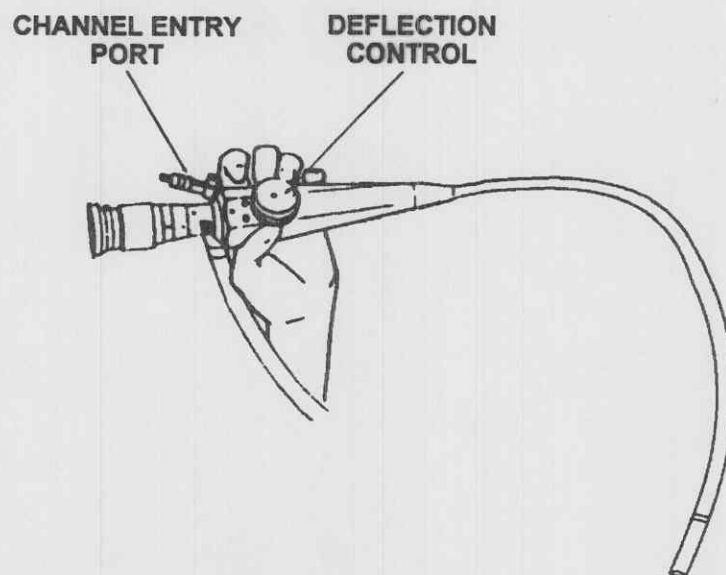

Figure 2-1. Holding the fiberoptic bronchoscope.
- b. Position the fiberoptic bronchoscope in your left hand as depicted in figure 2-1.